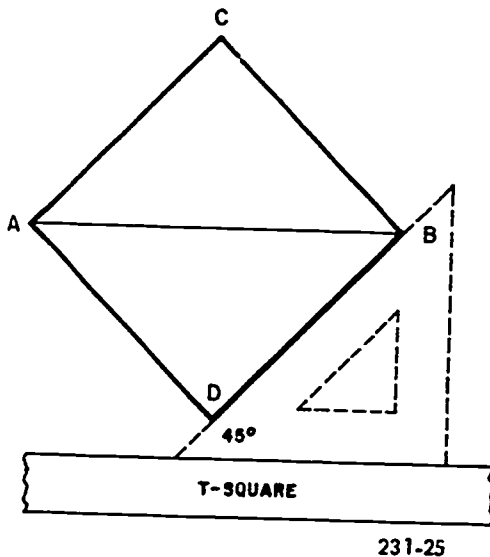

Figure 4-25. Constructing a square with the distance across the corners given.
- (1) Draw a perpendicular to given side BC at point B.
- (2) Using point B as center and radius BC, strike an arc to intersect the perpendicular (point D).
- (3) With points C and D as centers and radius BC, strike arcs which intersect (point E).
- (4) Draw lines DE and EC to complete the square.
**Construction of a Square with Distance Across Corners Given, Using T-square and Triangle.** The following method to make this construction is illustrated in figure 4-25.
- (1) Through points A and B of given distance AB, draw lines AC and BD, using a T-square and a 45° triangle.
- (2) Turn the triangle over and draw lines AD and BC in the other direction through the same points.
- (3) These lines which intersect at points C and D complete the square.
**Exercises (036):**